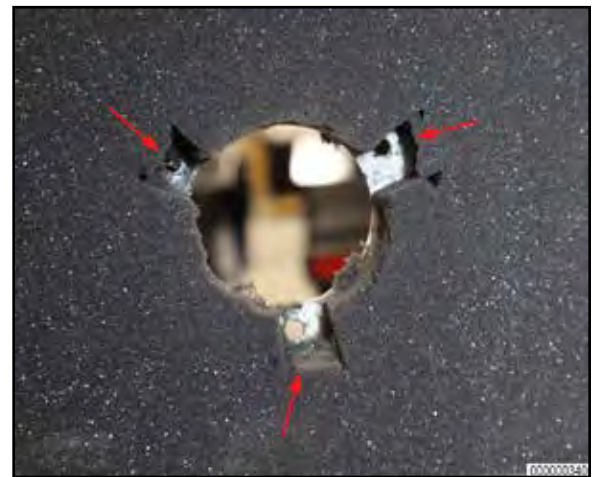

Figure 8
- **Step 13:** Using scissors or utility knife, remove a 1 inch square portion of foam from the backside of the Enclosure Frame in each of the three (3) Shore Power mounting holes as shown (Figure 8)